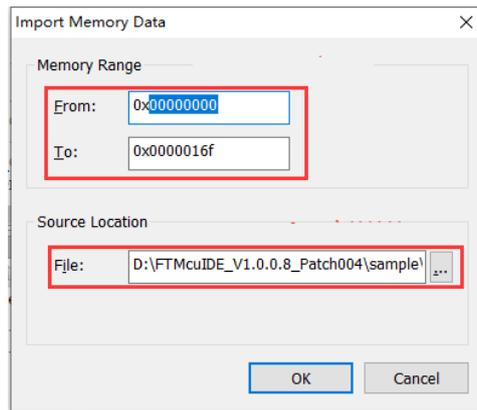

Figure 1-55
**Import Memory Data:** Import the memory data file, as shown in Figure 1-55. First, enter the start and end address of the imported memory space, then select the imported memory file, and click OK to import the memory file data into the set start and end address range.